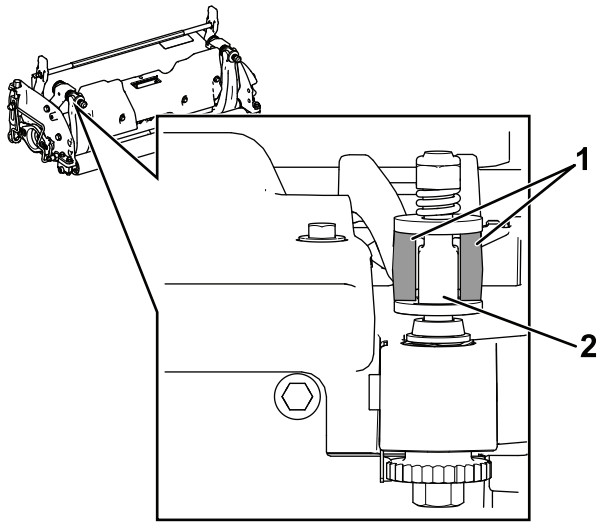

Figure 26
- Install the bedbar/bedknife assembly, positioning the mounting ears between the washers and the bedbar-adjusting screw (Figure 26).
Important: Center the DPA adjusters in the bedbar ears as shown in Figure 26.